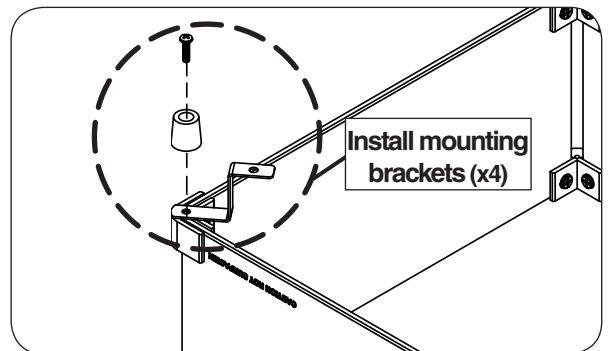

Fig. 21-3 Install mounting brackets
5. Remove a rubber peg from one of the bottom brackets. Place a mounting bracket and reinstall the rubber peg to the bottom bracket. Repeat for all sides. See Fig. 21-3.